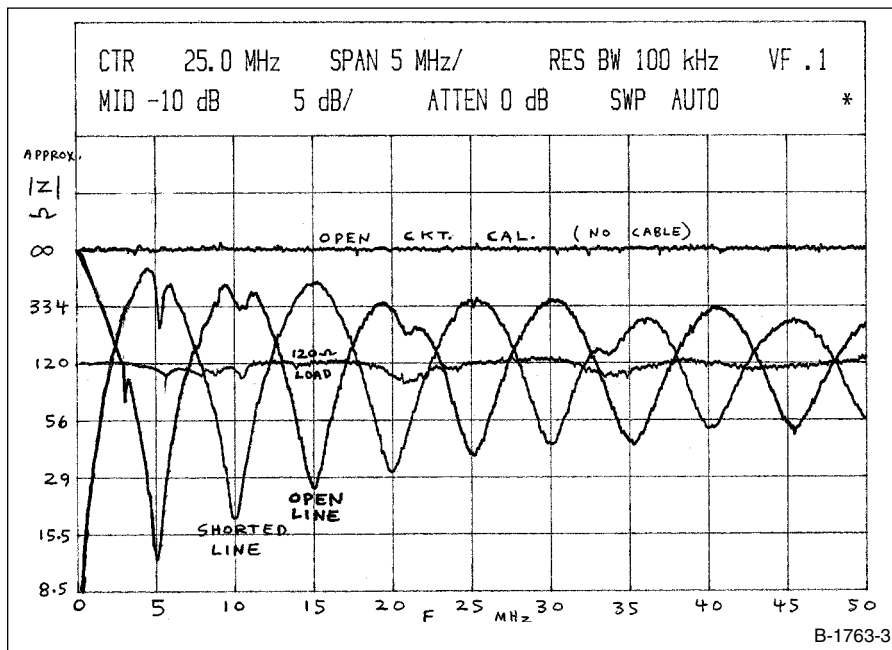

FIGURE 3: 32.5' Radio Shack 2 x 16 gauge speaker cable impedance versus frequency.
Figure 3 shows the results. Note the fairly constant 120Ω input impedance when the cable load is 120Ω; this confirms that value of Z_0 . With the far end of the cable shorted or opened, you see the classic resonances at multiples of the quarter-wave frequency, about 5MHz.
But any other load, and especially an open or a short, reflects some or all of it back; that's what causes the "comb filter" resonances in *Fig. 3*. *Photos 9* and *10* show this return pulse. But note how they both have a 100n initial plateau (A), the same voltage jump from (B) as with the 120Ω load. This means that the impedance seen by the pulse generator is the same with any cable load for the first 100ns following a signal change.